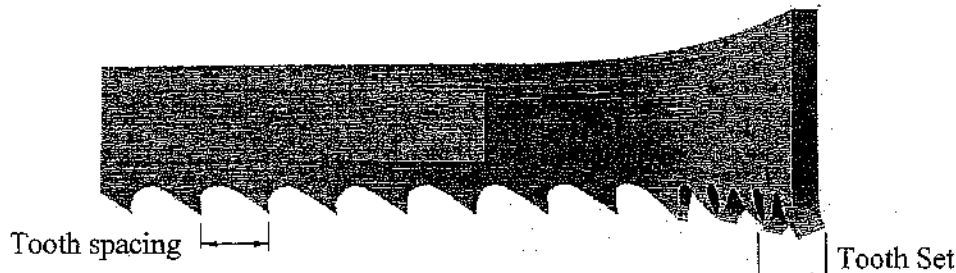

Fig. 7.1 Description of Band
- Wavy set has groups of teeth set alternately to right and left, forming a wave-like pattern. This reduces the stress on each individual tooth, making it suitable for cutting thin material or a variety of materials where blade changing is impractical. Wavy set is often used where tooth breakage is a problem. This is shown in Fig. 7.1 as follows: